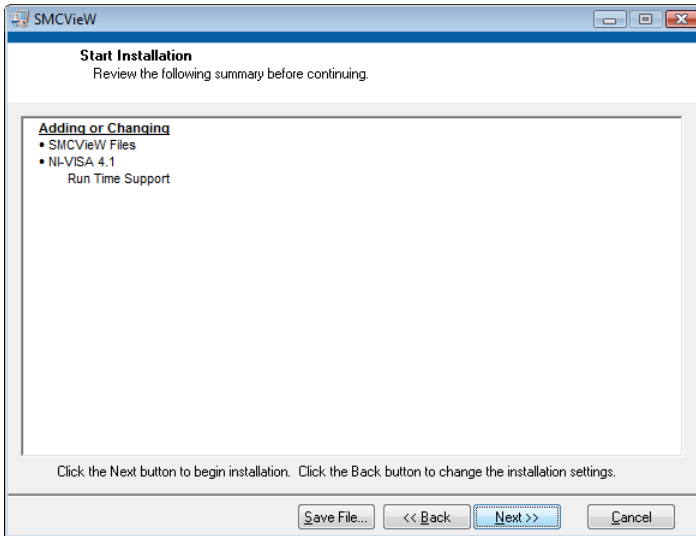

Figure 44. SMCView 5th installation screen
- Please press the "Next>" button and wait until installation process will be done (see Figure 44, Figure 45).